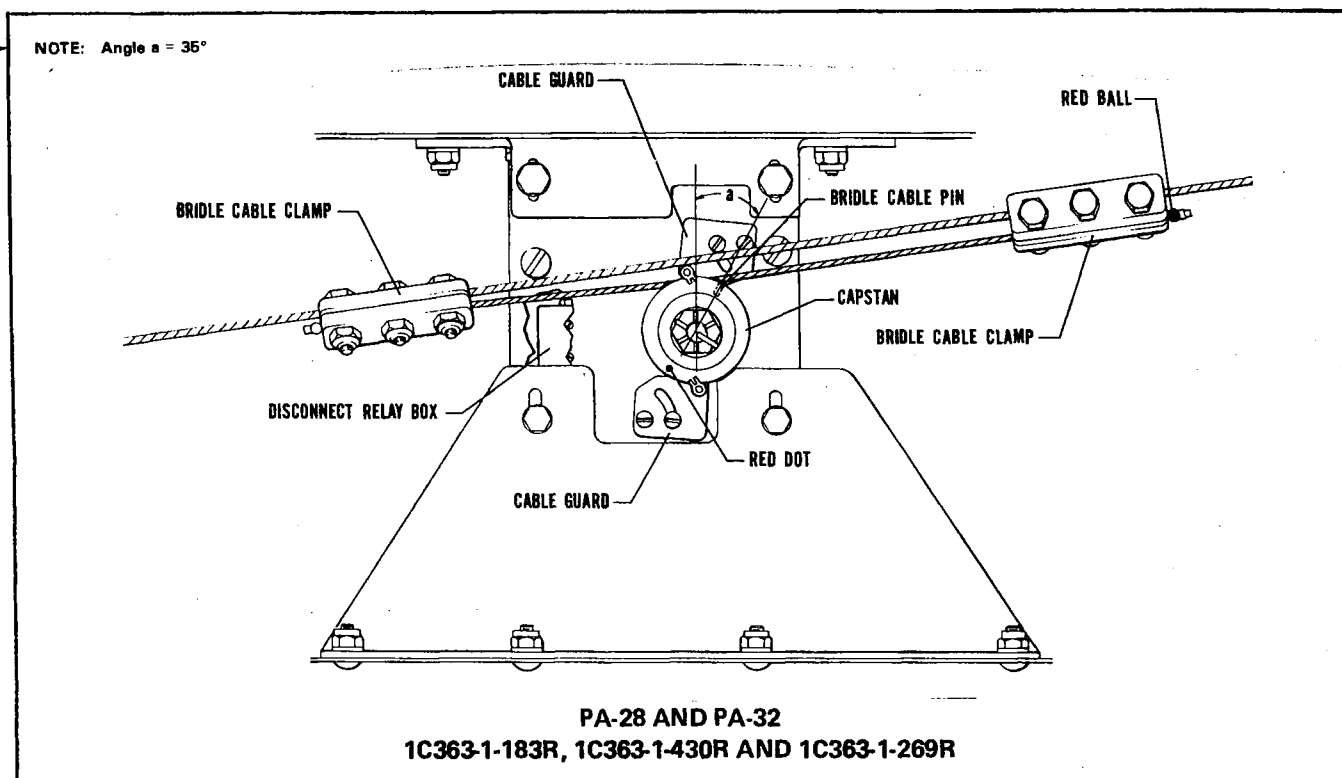

Figure 3-17a. Roll Servo Installation (AutoControl III B)
3-16a. INSTALLATION OF ROLL SERVO. (PA-32R-300, Serial Nos. 32R-7680001 and up; PA-32RT-300, Serial Nos. 32RT-7885001 and up; PA-32RT-300T, Serial Nos. 32RT-7887001 and up; PA-32R-301, Serial Nos. 32R-8013001 and up; and PA-32R-301T, Serial Nos. 32R-8029001 and up.) (Refer to Figure 3-17a.)
e. REFER TO FIGURE 3-13 AND CHECK THAT THE CONTROL CABLE TENSION (Z) IS ADJUSTED TO 40 ± 5 POUNDS PRIOR TO ATTACHING THE BRIDLE CABLE CLAMPS. Ascertain area on cable where clamp attaches is clean, dry and free of all lubricants and anti-corrosive additives. Attach the bridle cable to the aileron balance cable. The bridle cable is drawn to the aileron balance cable and attached with clamps at the previously painted locations on the balance cable. The longest portion of the bridle cable, or the end with the red ball, extends outboard toward the left side of the airplane. (Refer to Figure 3-17a.) (Should the balance cable not be painted, position the control wheel in neutral and align the bridle cable pin installed in the capstan, as shown in Figure 3-17a.) Adjust the bridle cable clamps so the bridle cable tension (Y) as shown in Figure 3-3 is the same as the balance cable tension +0 - 20%. Recheck the control cable tension from the bridle cable clamps outward and adjust, if necessary. If aileron cables require adjustment, it may be necessary to readjust the bridle cable tension. Torque the bridle cable clamp bolts to $55 + 5$ inch pounds.